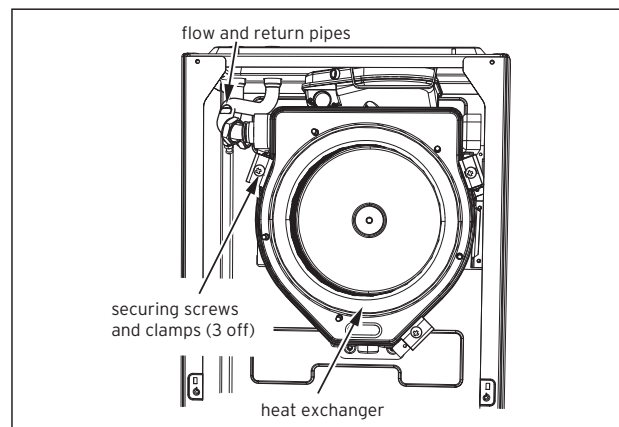

Fig. 11.2 Heat exchanger removal
- Pull to remove clamps (two at the top and one at the bottom) to remove the heat exchanger, see fig 11.2.